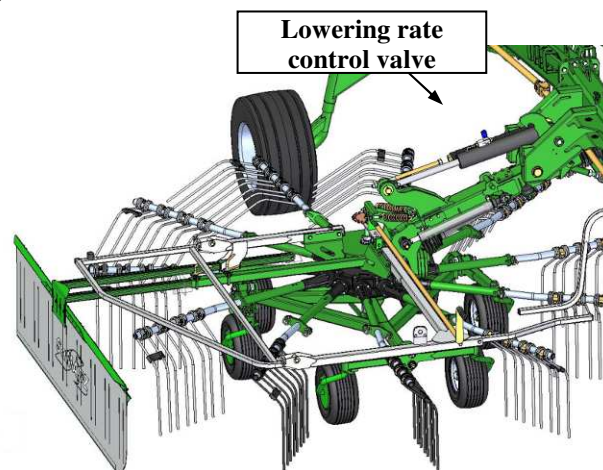

Fig. 27. Rear working unit lowering control valve
- ❑ set the required rate of lowering of the rear rotor by means of valve on the cylinder of the rear working unit (**Fig. 27**).